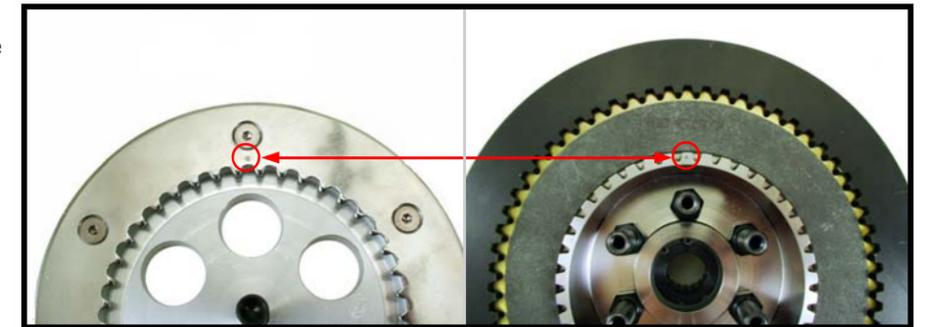

Figure 4
- ◆ Install pressure plate with adjuster screw as per manufacturer's instructions. If installing a Cyclone Drop-In Clutch see Figure 4 on opposite page for proper installation of pressure plate and springs.